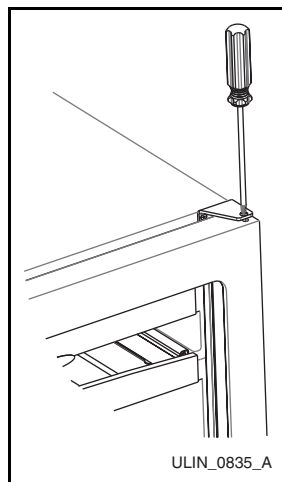

Figure 14
2. Remove the top hinge pivot pin with a Phillips screwdriver (**Figure 14**) and lift door off bottom hinge pin. Be careful not to lose the door closer insert sets.